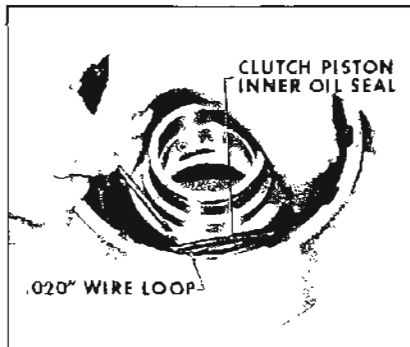

Figure 5-223
11. Examine forward clutch piston inner seal. If nicked, torn or worn, remove seal. See Figure 5-223.